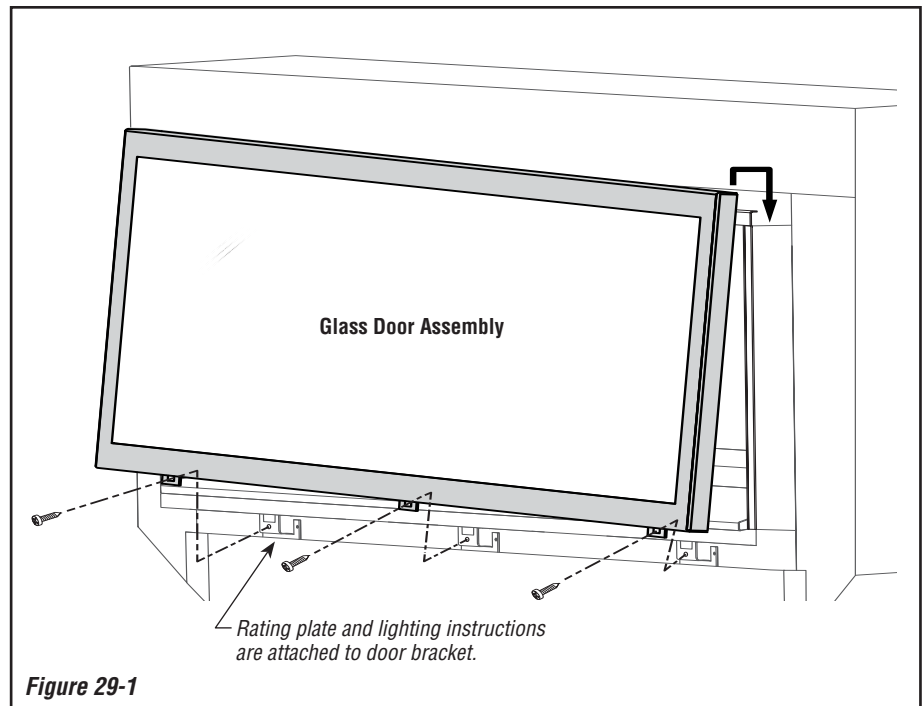

Figure 29-1
1. While holding the door assembly by the side edges, hook the top edge to the fireplace, and then swing the bottom edge in toward the fireplace, *taking care not to damage the glass (Figure 29-1)*.
2. Align the screw holes below the door assembly with the holes in the fireplace, and secure using the (3) provided screws.